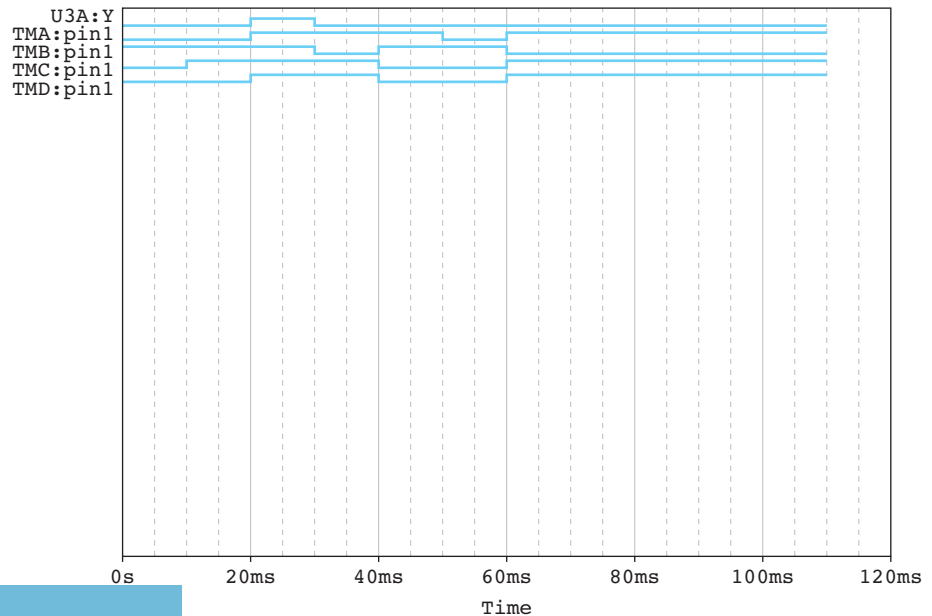

FIGURE 10.69 Digital output of Example 10.23.
- Set the simulation analysis as time domain (see Figure 2.75), with a simulation time of at least 70 ms. The simulation output plot is shown in Figure 10.69.
4. TMA, TMB, TMC, and TMD are the input sources into the digital circuit. Use the reference in Table 10.34 and compare it to Figure 10.69. The result shows that there is only one member elected, which is the third vote.